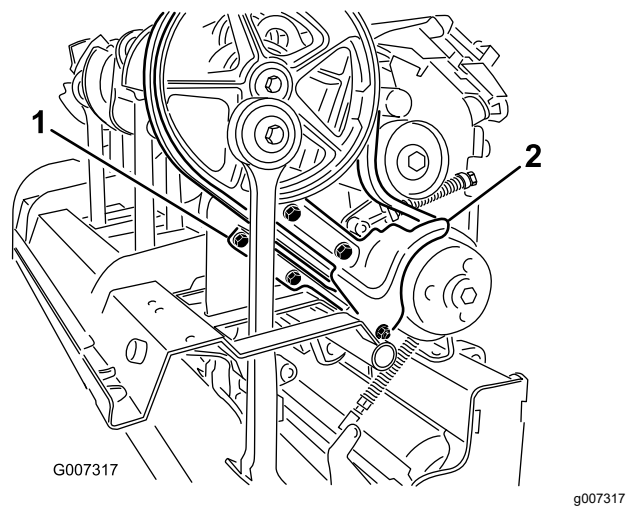

Figure 36
3. Remove the fasteners securing the dirt shield and the lower belt shield (Figure 36). Remove the dirt shield and the lower belt shield.